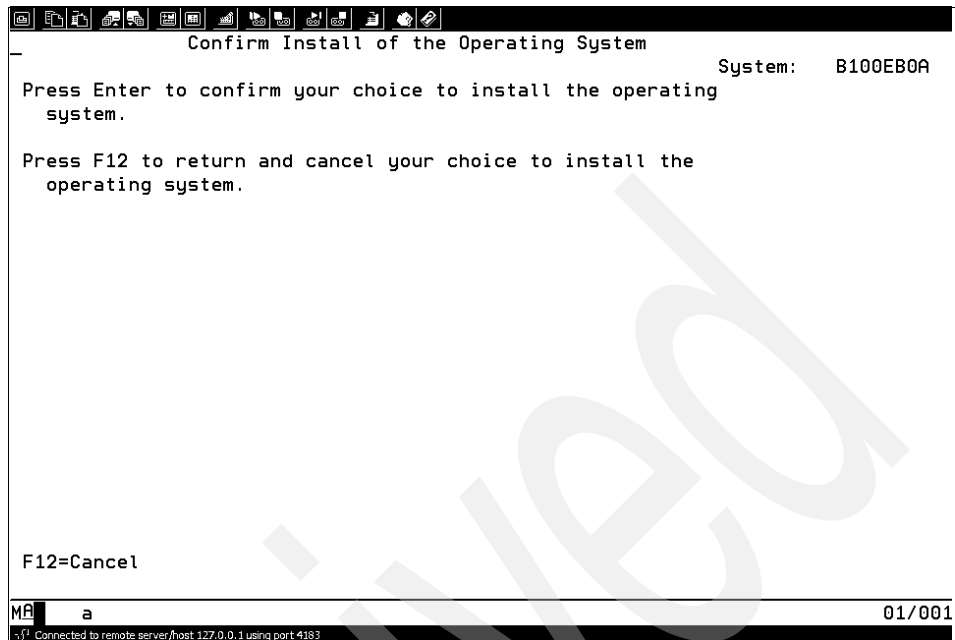

Figure 5-44 Confirm installation
2. The Confirm Install of the Operating System screen is displayed on the console screen, as shown in Figure 5-44 on page 263.